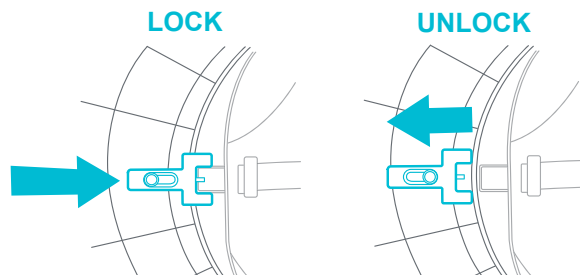

Fig. 9b
ALWAYS make sure to lock the seat before using the walker mode. Refer to the corresponding Fig. 9b.
- **LOCKING SWIVEL SEAT TO FRONT POSITION:** To lock the seat in place, locate the lever underneath the tabletop. The seat tab should be aligned with the lever. Push in, to lock (Fig. 9b).